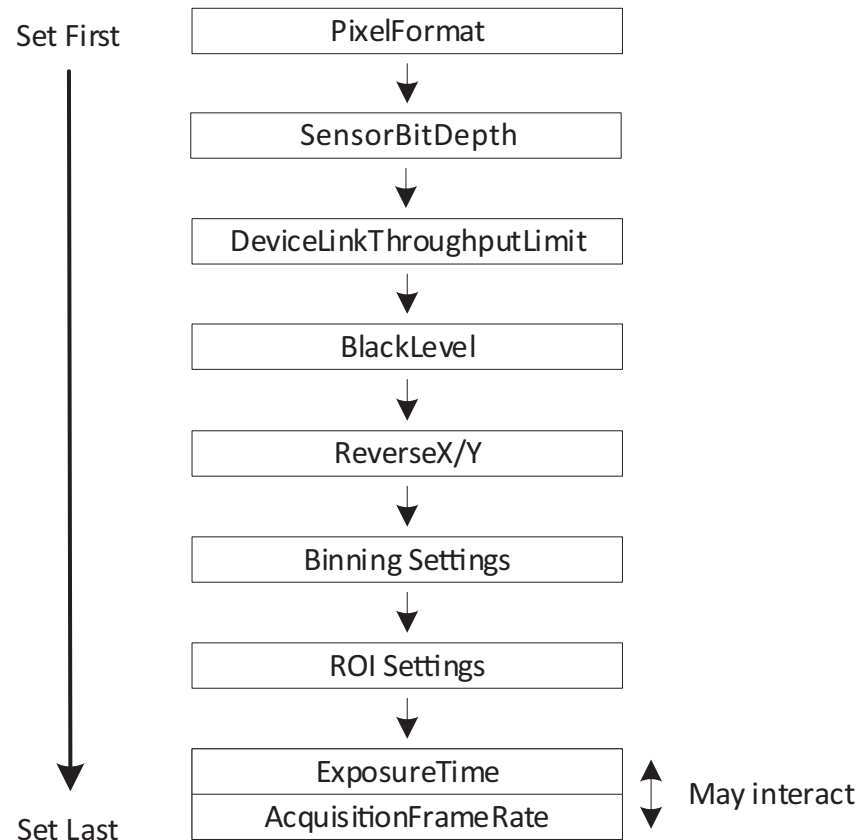

Figure 63: Interdependencies between features
The conversion between time and clock cycles affects control values. Features for pixel format, bandwidth, ROI, exposure time, and triggering are related to each other. Changing values for one feature can change values for another feature. For example, frame rates can be reduced when `PixelFormat` is changed subsequently. Figure 63 shows the interdependencies.
- To avoid readjustments, apply settings in the order shown in Figure 63.